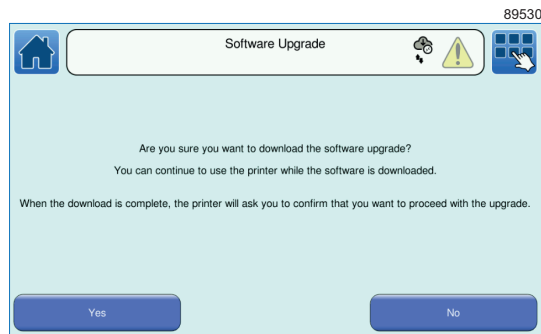

Figure 96. Software Upgrade Confirmation (Download)
- 3 On the **Software Upgrade** confirmation screen, touch **Yes** to confirm and start the download or **No** to cancel (see Figure 96).